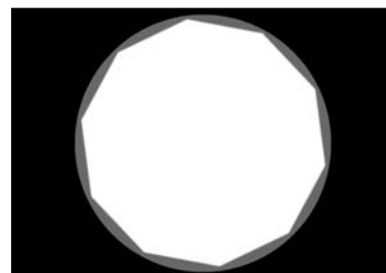

Figure 27
15. While looking at the field diaphragm silhouette through the eyepieces, rotate the two hex wrenches back and/or forth until the diaphragm is properly centered (figure 27). You can make adjustments to the diaphragm using the Field dial in order to aid in this process.